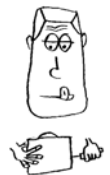

Fig. 36 Mounting the Extension Tube
Secure the extension tube to the side panel with the inlets (fig 36) using both knurled screws. Both tubes are conductive and are electrically connected to the casing when secured to the **IM806**. It is recommend to discharge the case via the spiral wire with alligator clip (fig. 2, item 4).